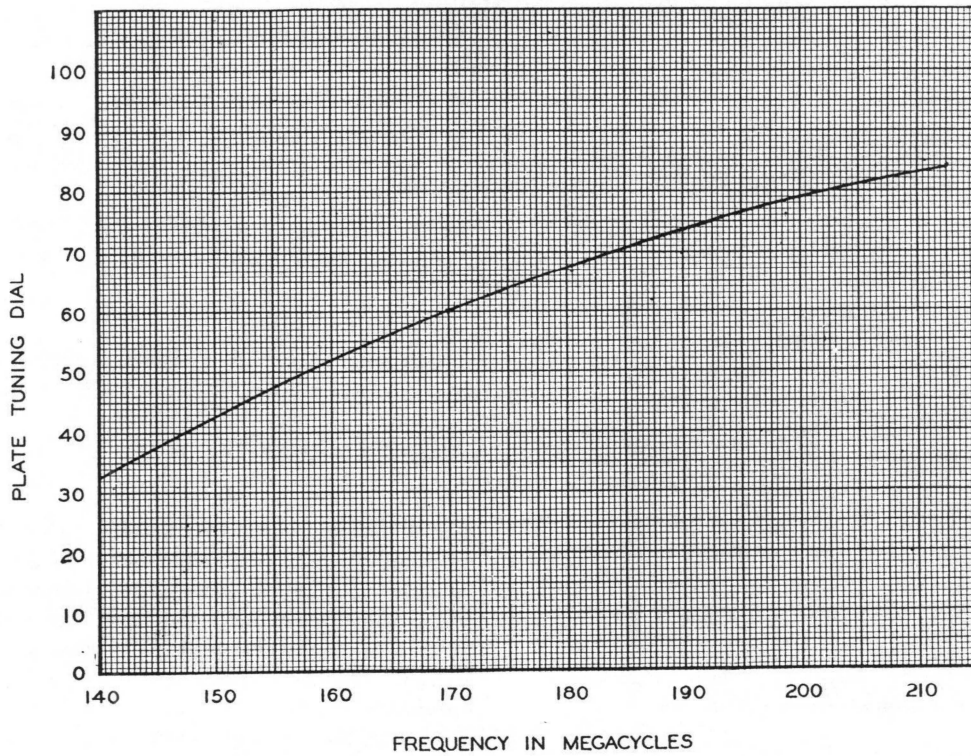

Figure 2-7. Radio Frequency Amplifier AM-18/APT—Plate Tuning Curve
d. Set the panel-located "PLATE TUNING" dial to the setting indicated for the desired frequency by the plate tuning curve. (See fig. 2-7.)